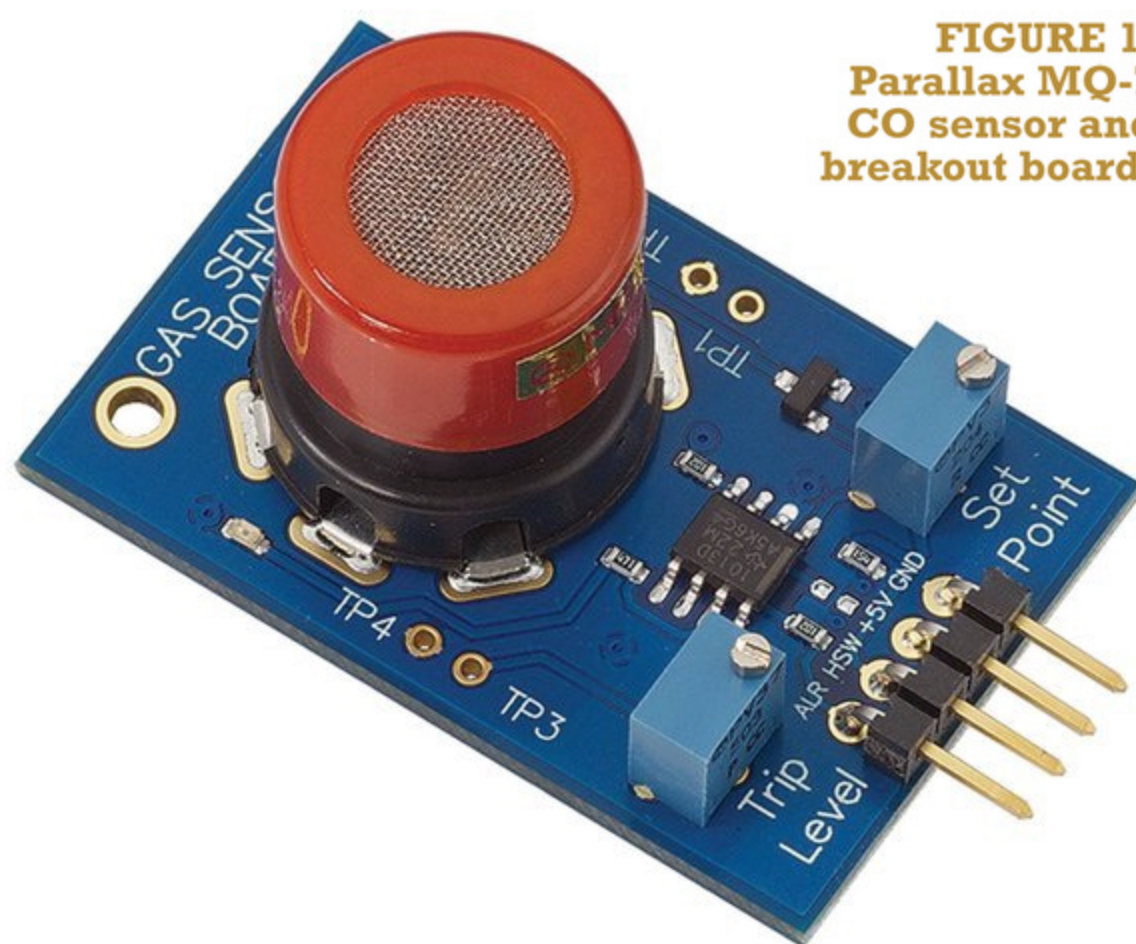

FIGURE 1.
- Carbon monoxide (CO) is a colorless, odorless gas that interferes with the delivery of oxygen throughout the body. CO causes headaches, dizziness, weakness, nausea, and even death. (Ivan Blumenthal, www.ncbi.nlm.nih.gov/pmc/articles/PMC1281520.)
- Sensor Chosen: MQ-7 CO 50-3,000 PPM Parallax gas sensor board (see **Figure 1**).